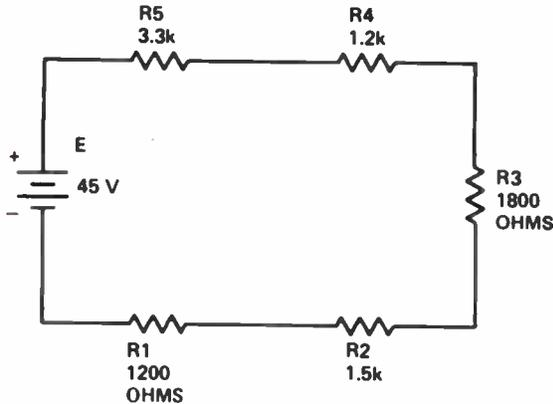

Figure 3. A series circuit with five resistors.
**Calculating Series Resistance.** A more complex series circuit is, which has five resistors instead of three, shown in Fig.3. Some resistance values in the circuit are provided in ohms, others in kilohms (k). To find the total resistance in the circuit, we must convert all resistor values to the same unit.